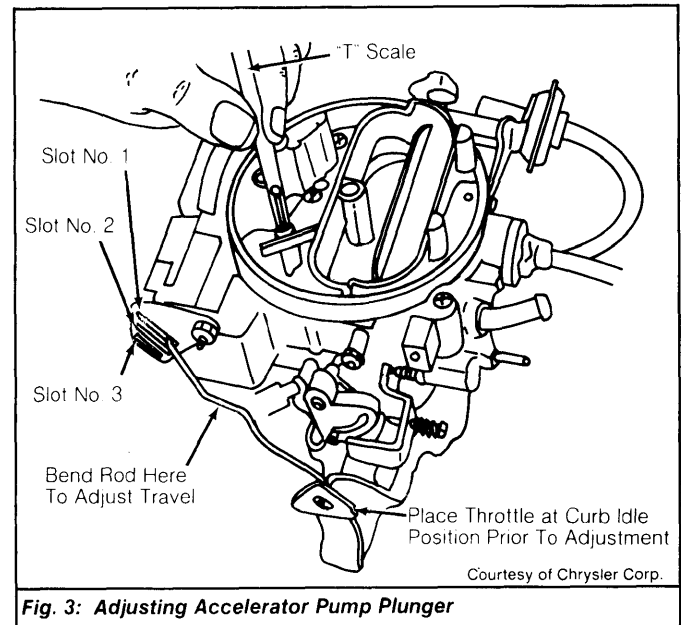

Fig. 3: Adjusting Accelerator Pump Plunger
- 1) Place throttle lever in curb idle position. Ensure accelerator pump rod is in No. 1 slot in throttle lever. See Fig. 3.
- 2) Using a scale, measure drop (travel) of accelerator pump plunger from curb idle toward open throttle position. If travel is not to specification, bend operating rod. See Fig. 3.